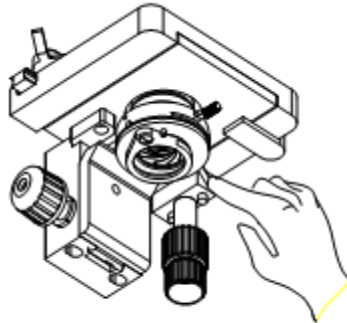

Fig.14
7.9 Adjust the Viewing head setscrew, in order to objective easy. (Fig.14)